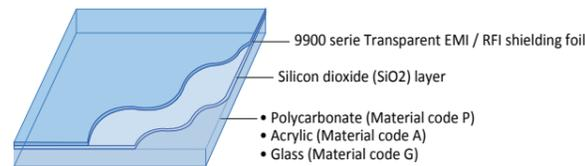

Figure 74 : Possible structure of an ITO window
- 74 ITO Coating** Indium tin oxide coating does not produce a moiré effect and offers good shielding at higher frequencies. The product is however sensitive to acid substances, such as for instance found in finger prints. Optionally a plastic film layer may be applied in order to protect the ITO layer. (Fig. 74)